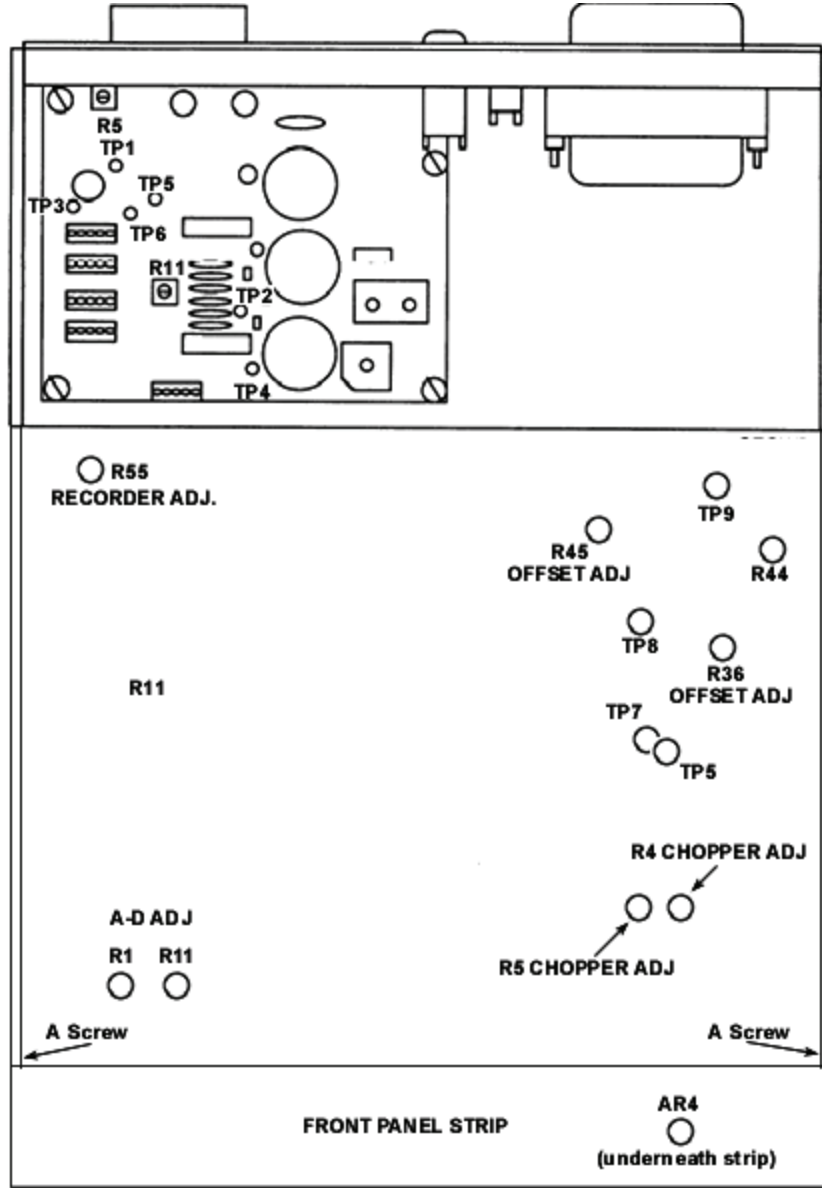

Figure 1. Adjustment locations - bottom view.
(1) Remove two screws (A) and remove front panel strip (fig. 1).
(2) Adjust AR4 (fig. 1) so that calculated **PWR REF** output power is 1 mW as calculated in (7) through (12) above. (R)